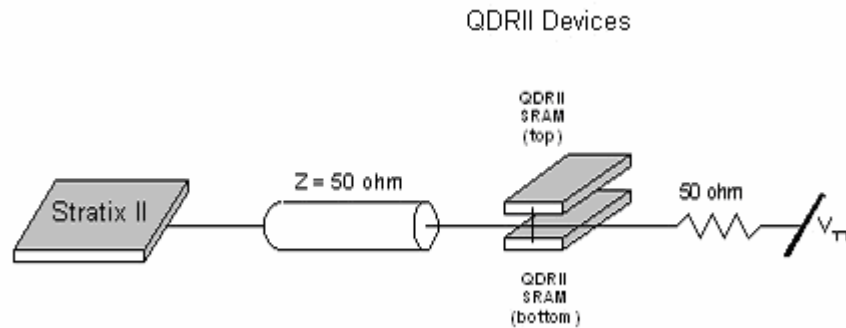

Figure 4-4 (D and K signals)
11. Stratix II output signals that are double-loaded (one connection to Stratix and two connections to QDRII) such as D, K should be routed in a Y-shaped or T-shaped connection with the memory-side termination resistor. The general idea is shown in Figure 4-4.